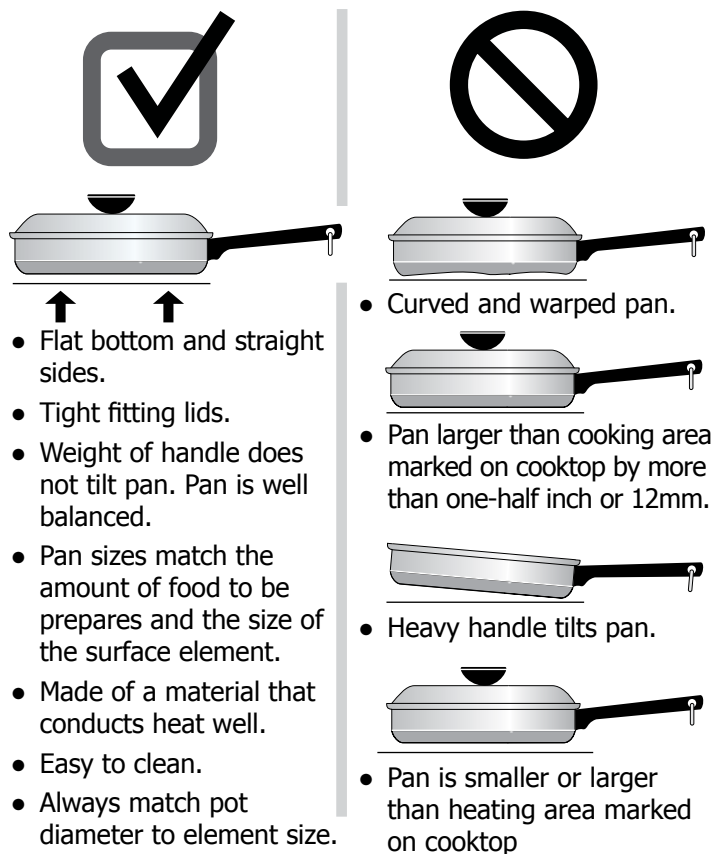
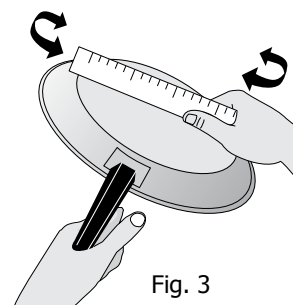

Fig. 2
Fig. 3
Bake Element - Fig. 3*
hidden bake element (Fig. 3*)
4. Assemble one connector arm at a time. With the oven door open and the oven rack in place, install one end of the connector arm to the hole in the **door connector bracket** (Fig. 1) and the other end in the hole in the **rack connector bracket** (Fig. 2 and as in Fig. 3). The oven rack may need to be adjusted in or out in the rack position to match the length of the connector arm.
The size and type of cookware used will influence the setting needed for best cooking results. Be sure to follow the recommendations for using proper cookware as illustrated in Figs. 2 & 3.
Cookware should have flat bottoms that make good contact with the entire surface heating element (See Fig. 2). Check for flatness by rotating a ruler across the bottom of the cookware (See Fig. 3).